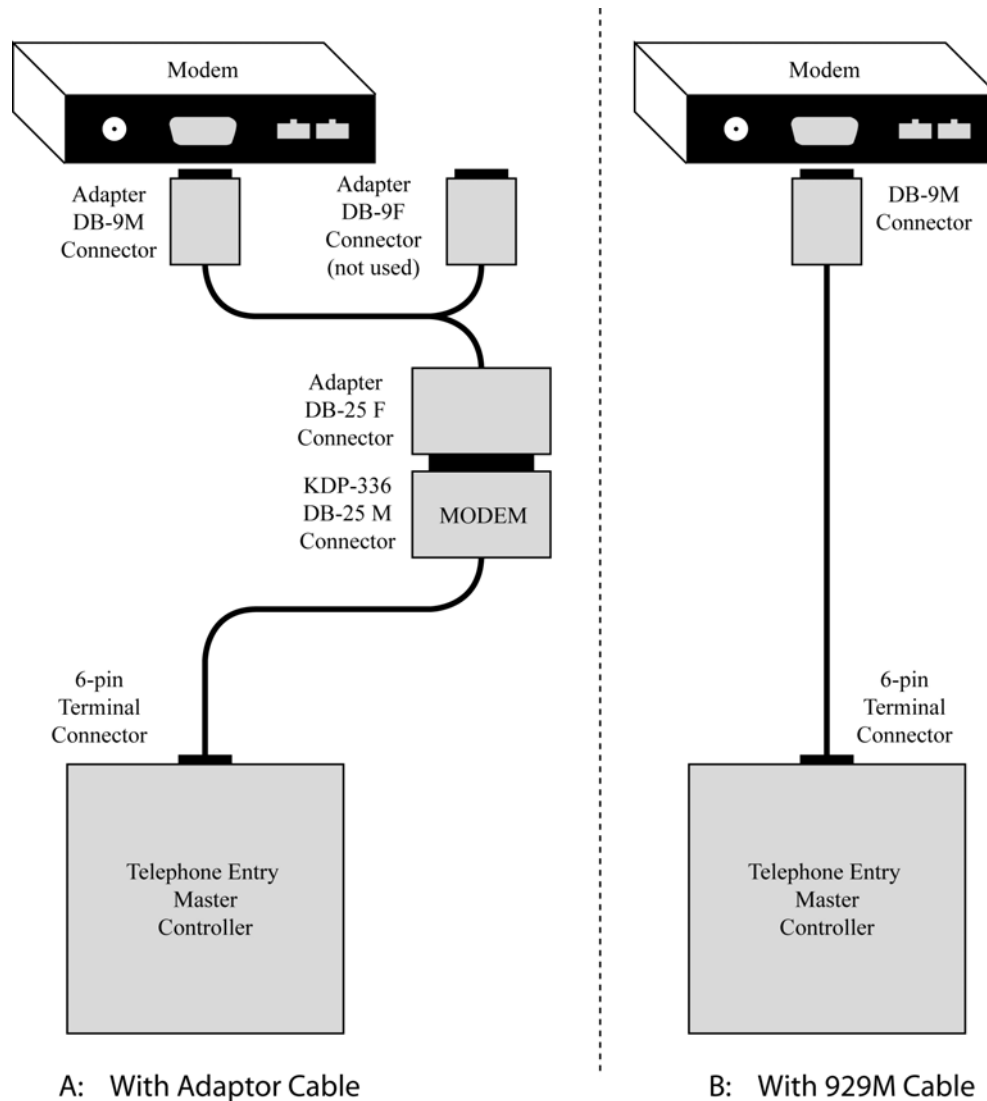

Figure 21: Modem Cable Connection
- If the modem was purchased from Keri Systems, it comes with an adapter that accommodates a female DB-9 connector (should the modem have a DB-9 instead of a DB-25 connector). Use this adapter cable in conjunction with a KDP-336 cable to make the modem/controller connection. See Figure 21 on page 18.
- An adapter cable is provided, when needed, with a modem purchased from Keri Systems. Connect the adapter cable between the modem and the KDP-336 cable as shown in side A of Figure 21.
- To use the KDP-929M cable see side B of Figure 21.